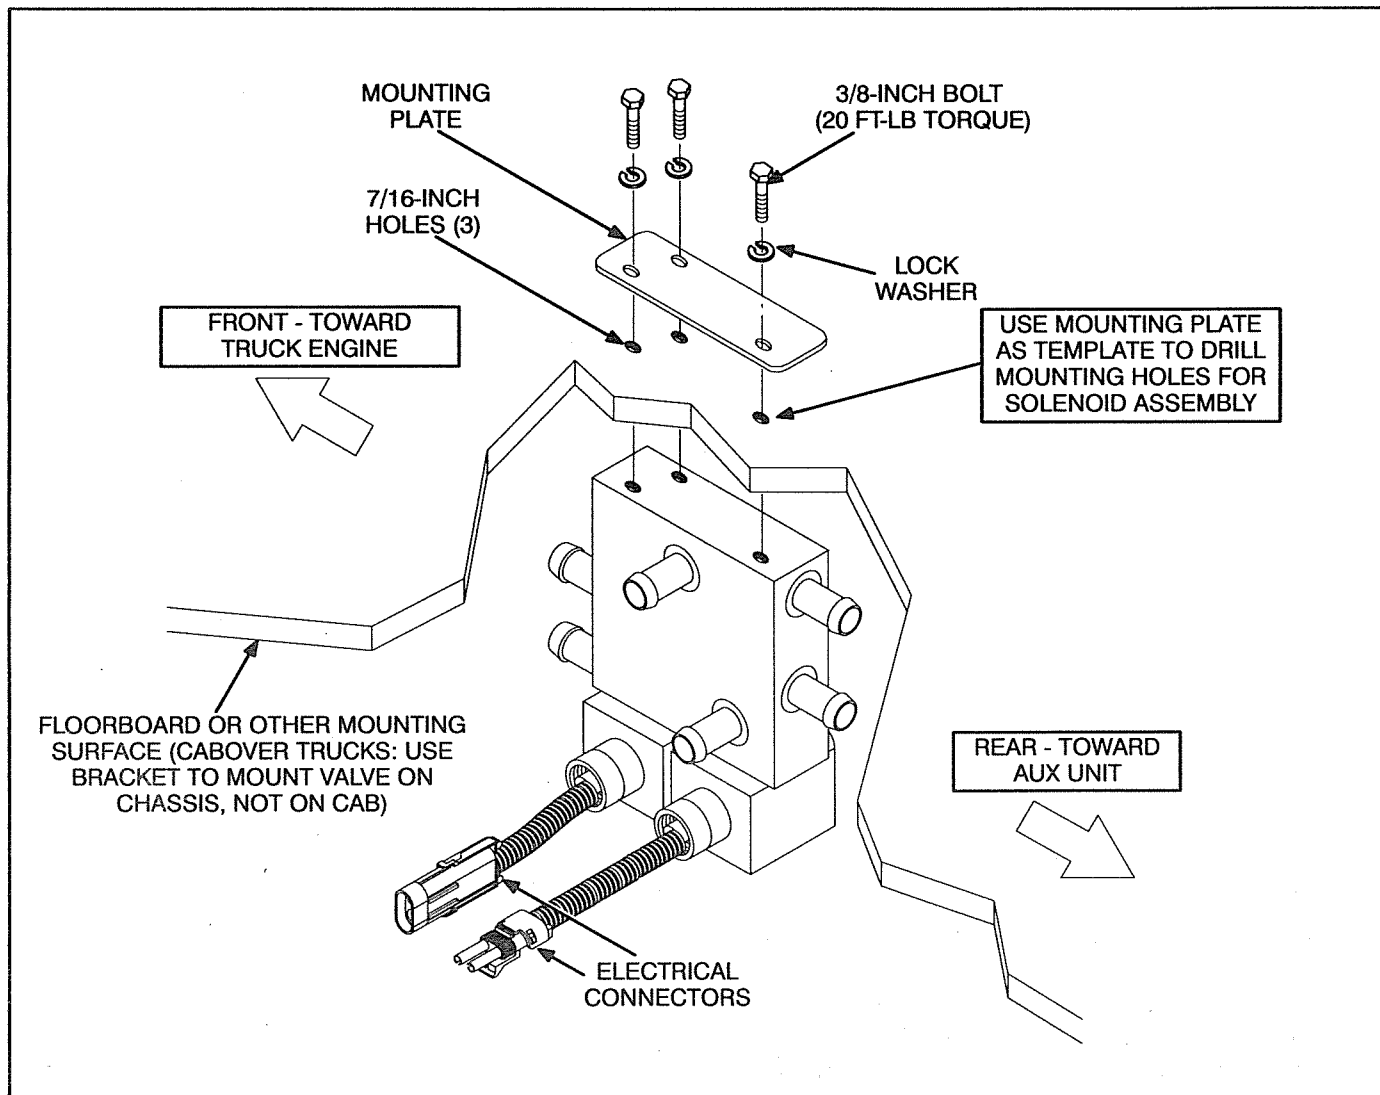

FIGURE 8-2. MOUNTING THE SOLENOID VALVE ASSEMBLY
4. Secure the solenoid valve assembly to the mounting surface with three 3/8-16 x 7/8-inch screws and washers (see Figure 8-2).